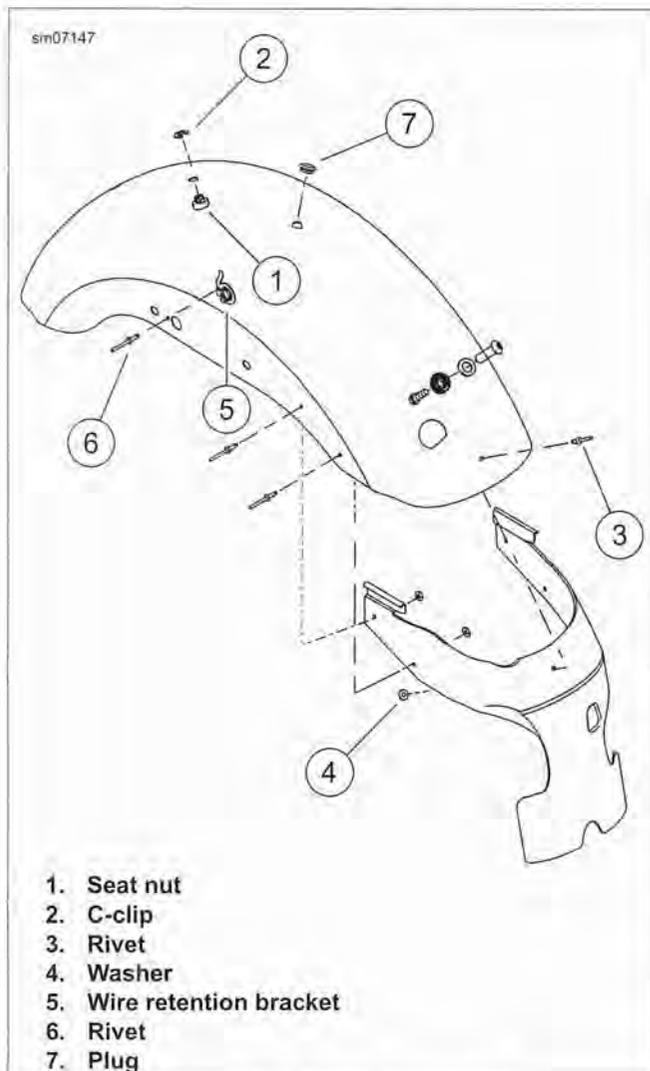

Figure 2-202. Fender Preparation
See Figure 2-202. Remove the C-clip (2) and the seat nut (1). Replace with a **new** seat nut kit.
1. See Figure 2-202. Drill out rivets (3) securing rear fender extension to fender with a 1/4 drill bit.
2. Rivet fender extension to fender backed by a washer (4).
1. See Figure 2-202. Drill out rivets (6) securing wire retention brackets (5) with a 1/4 drill.